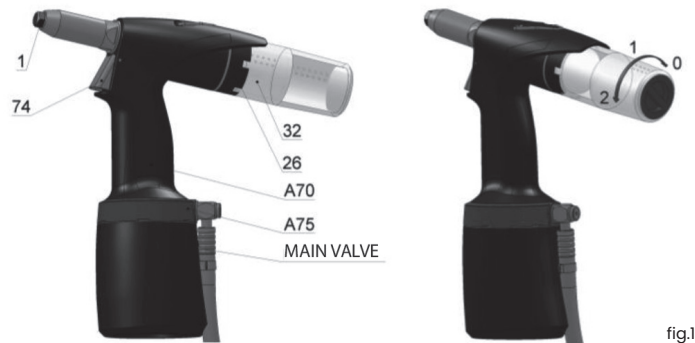

fig.1
Check the opening of the hand slide valve [main valve fig. 1] on the tool. All devices in our AS series can be quickly disconnected from the compressed air to check or temporarily switch off the suction device.
The manufacturer equipped the tool with a nosepiece /fig.1 – pos.1/ for a rivet Ø5.0. Riveting with blind rivets of different diameters [further on referred to as BR] requires use of appropriate nosepieces that are stored in the mandrel collector or in the carton box.
Replacement of nosepieces: Connect the tool to the source of compressed air, depress the trigger and screw out the nosepiece /fig.1 – pos.1/ with a spanner no. 12. Screw on a new nosepiece /acc. to the chart/ and tighten it. Now you can release the trigger of the tool.
The tool is equipped with revolving air supply /fig.1 – pos.A75/ which enables manipulation with air supply before as well as during tool operation, air hose does not obstruct riveting in any position.
The tool is equipped with multifunction trigger /fig.1 – pos.74/ which enables following:
The tool is equipped with a multifunctional mandrel collector /fig.1 – pos.32/ which has the following positions:
Put and push the mandrel collector /fig. 1 – pos. 32/ into the ring relief /fig.1 – pos.26/ end-to-end, thus you depress the arrestment element, and turn to position 1 or 2. The mandrel collector shall thus be in place. The suction shall initiate in position 2. Relative position of the mandrel collector with air outlets /fig.1 – pos.32/ and the ring relief /fig.1 – pos.26/ ensures that the outlet air pressure goes out in a suitable direction [e.g. offward the operator of the tool].
Turn the mandrel collector /fig.1 – pos.32/ end-to-end to position 0 and pull it out of the ring relief /fig.1 – pos.26/. The suction shall thus switch off.
Suction switches off by turning and removing the mandrel collector /fig.1 – pos.32/. Insert BR into the riveting tool through the nosepiece hole. Depress the trigger to move the jaws offward the BR head. The movement ends when reaching max. stroke, correct BR with respect for material gauge shall tear off the shank [riveting] for one stroke of the tool. Releasing the trigger shall return the jaws to initial position and released torn-off shank can be removed from the nosepiece by tilting the tool. /fig.1 – pos.1/.
Mounting and turning the mandrel collector /fig.1 – pos.32/ to position 1 shall arrest it. Insert BR into the riveting tool through the nosepiece hole. Depress the trigger to move the jaws off ward the BR head. The movement ends when reaching max. stroke, correct BR with respect for material gauge shall tear off the shank [riveting] for one stroke of the tool. Releasing the trigger shall return the jaws to initial position and the released torn-off shank can be transported into the mandrel collector by tilting the tool.
Suction switches on by turning the mandrel collector /fig.1 - pos.32/ to position 2. In this position the suction holds BR in the nosepiece /fig.1 - pos.1/ which enables riveting in any position without danger of BR falling out of the nosepiece of the tool. Depressing the trigger shall perform riveting. Releasing the trigger shall transport the shank into the mandrel collector.